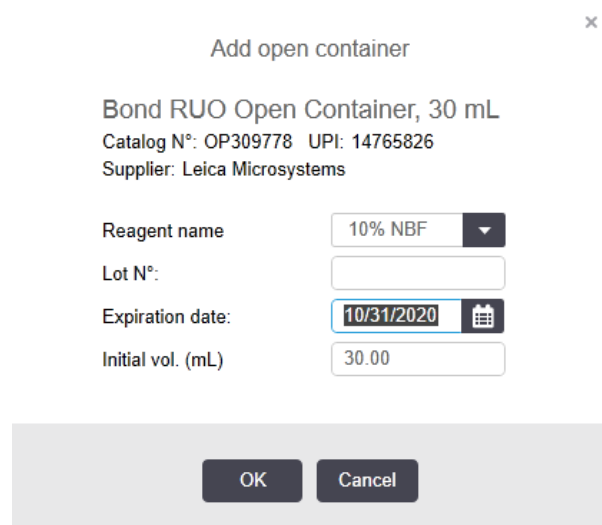

Figure 36: Add open container window
- In the **Add open container** window (see Figure 36), select **10% NBF** from the **Reagent name** drop down menu, enter a **Lot No.** (if required), and enter an **Expiration date**.